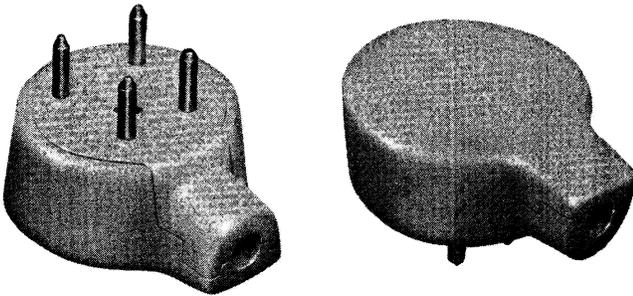
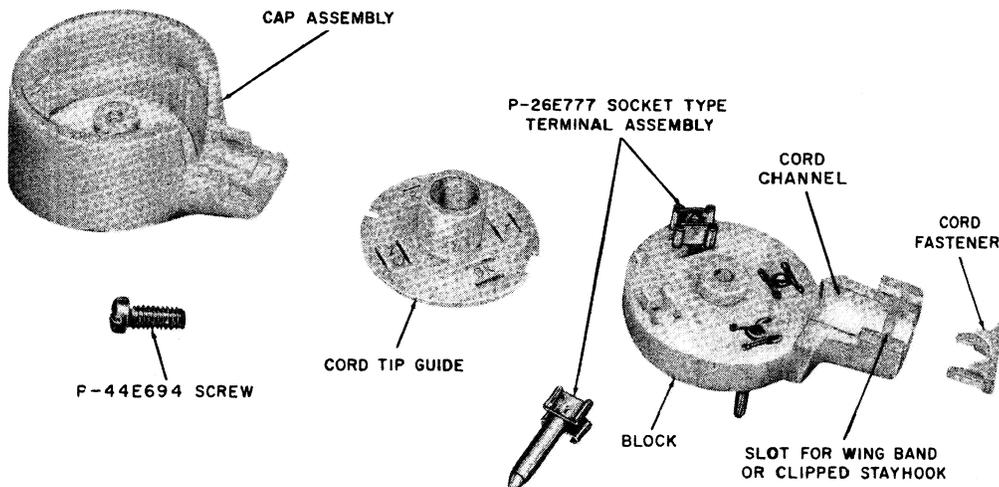

Fig. 6—505A Plug
Fig. 7—505A Plug Disassembled
2.07 The 505A plug (Fig. 6) is a 4-contact plug similar to the 504A plug, but has in addition a cord fastener (Fig. 7) which holds the cord in place while the spade tips are being connected. The cord fastener also anchors the mounting cord in the assembled plug.
4.06 Connections for the 505A plug (Fig. 6 and 7) are as follows: